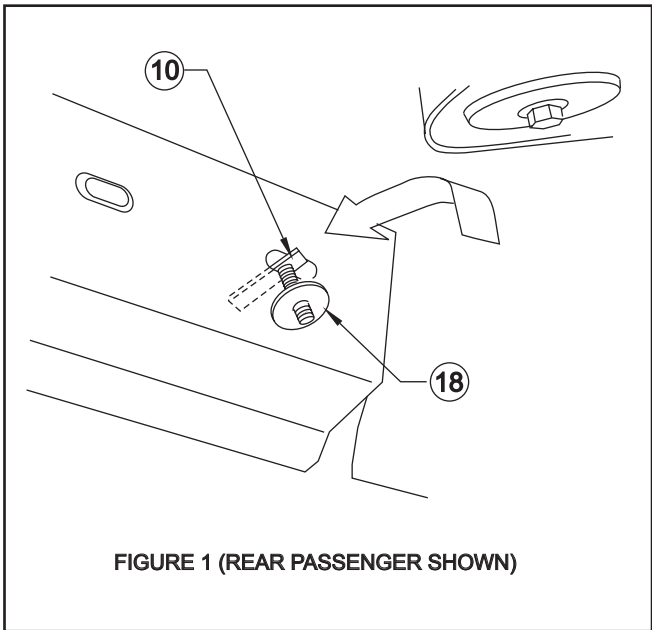

FIGURE 1 (REAR PASSENGER SHOWN)
- STEP 3. Remove rubber grommets from underside of vehicle panel (4 total). Attach plastic washer to bolt plate. Insert bolt plate as shown. **SEE FIGURE 1.**